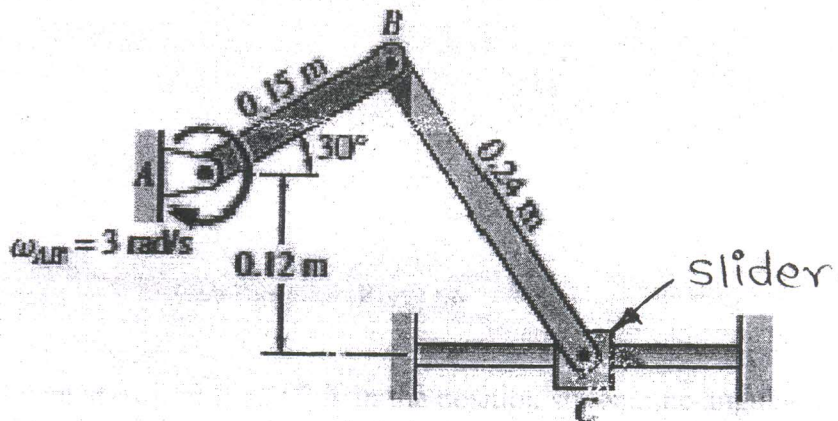

Fig. Q.7
Q.7 When the mechanism shown in Fig. Q.7 is in the position shown, the angular velocity of bar AB is $\omega_{AB} = 3 \text{ rad/s}$ clockwise. Locate instantaneous center of rotation and calculate the angular velocity of bar BC. Also find the velocity of slider C for this position.